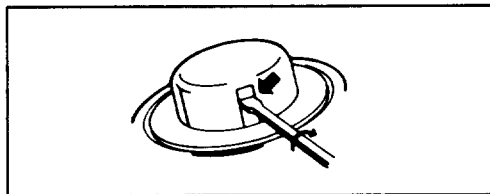

Figure 11
1. To remove empty spool, insert widest possible blade screwdriver snugly into one of the two window slots on the spool hub and twist screwdriver 1/4 turn (Fig. 11). Spool will snap off.